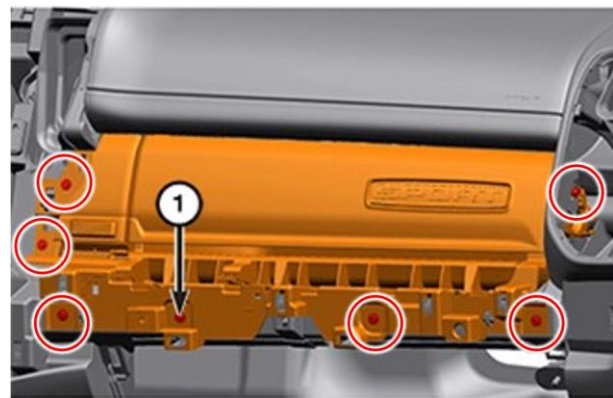

Figure 13 – Upper Glove Box
21. Remove the seven fasteners (1) securing the upper glove box (Figure 13).
40. Fully seat the upper glove box to the instrument panel then install and securely tighten the seven upper glove box fasteners (1) (Figure 13).